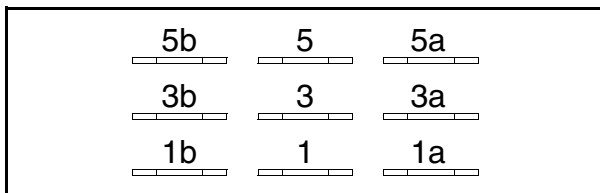
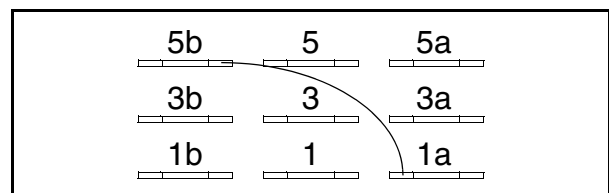

Figure 5
Figure 15
- Install or remove jumpers to achieve the desired cycle time. *Figure 5 through Figure 15* illustrate the permissible jumper combinations.
Removing all the jumpers extends the cycle time, making it as long as possible. See *Figure 5*.
This configuration shortens the final spin time from 4 minutes to 2 minutes. See *Figure 15*.